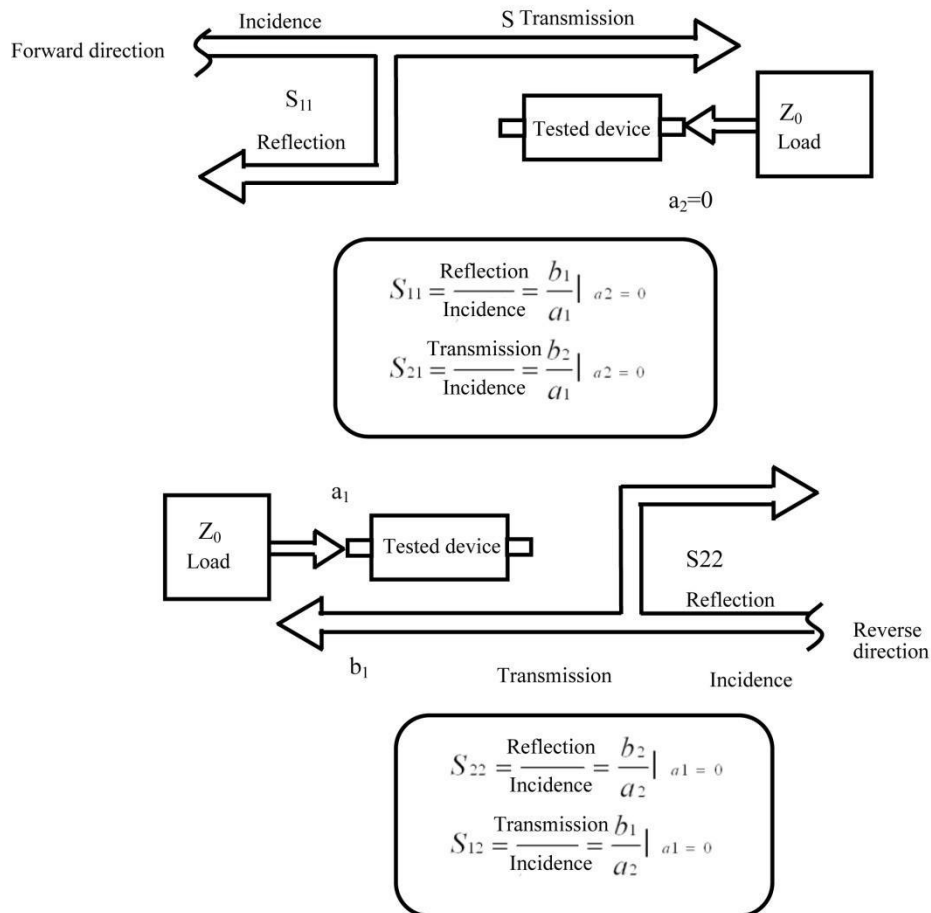

Fig. 4.3 Definition of Parameter S
In this case, the four parameters (S) of the 2-port device are respectively S11, S12, S21 and S22. Fig. 4.3 further shows the parameter S, where: